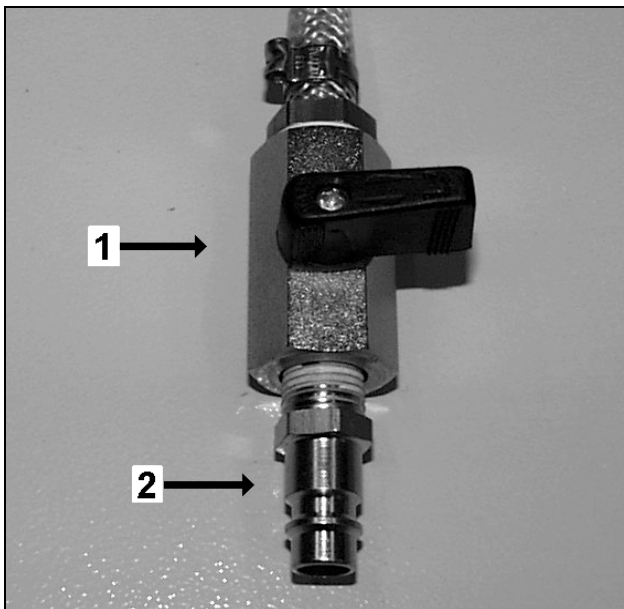
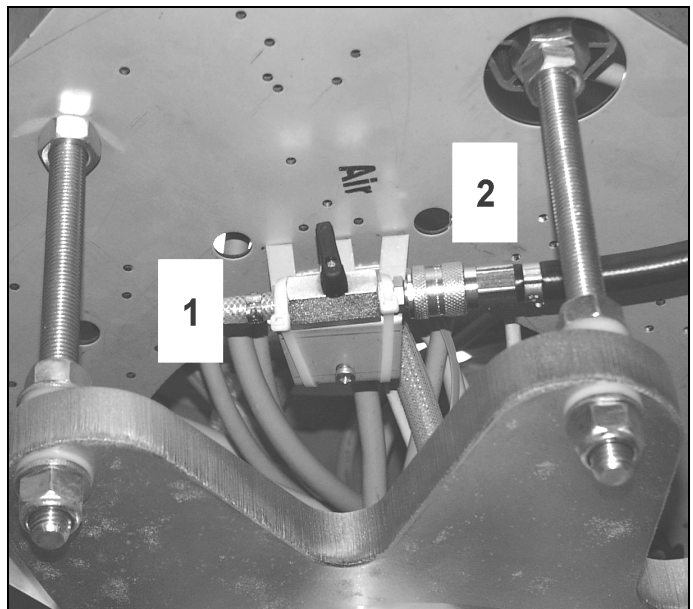

Fig. 13 Compr_Anschl_ARC_1
Fig. 14 Compr_Anschl_ARC_2
- In order to determine which 4 lock nuts need to be removed from the spacers, position the interface plate with one side parallel to the closest wall and the connections facing down; see Fig. 14.
- Mount the interface plate to the 4 designated threaded rods with the M16 nuts, tightening each to 70 Nm; see Fig. 13.
- Lock the threaded bushings with 4 nuts; see Fig. 14.
- It is absolutely necessary to plug the plug-in sleeve, see arrow 2/ Fig. 13 on the air control line end at the interface plate 2/ Fig. 14 to secure the plug-in sleeve.
- The plug-in sleeve is required for the later installation on the shut-off valve of the ARCOSKOP, see 1/ Fig. 14 and 1/ Fig. 13.